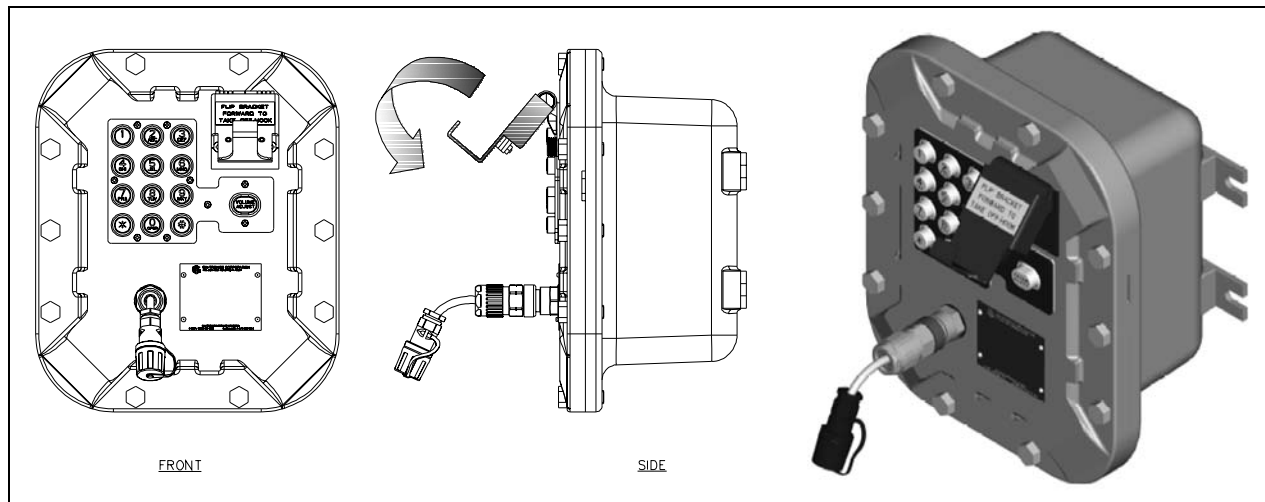

Figure 13.
5. Flip the headset activation bracket to its vertical preset position to hang up. If applicable, place the headset on the bracket after the completion of the call. Otherwise, disconnect the flexible receptacle and plug by unscrewing the two ends, and pulling them apart. When disconnected, reattach the sealing cap to the end of the receptacle. See Figure 13.